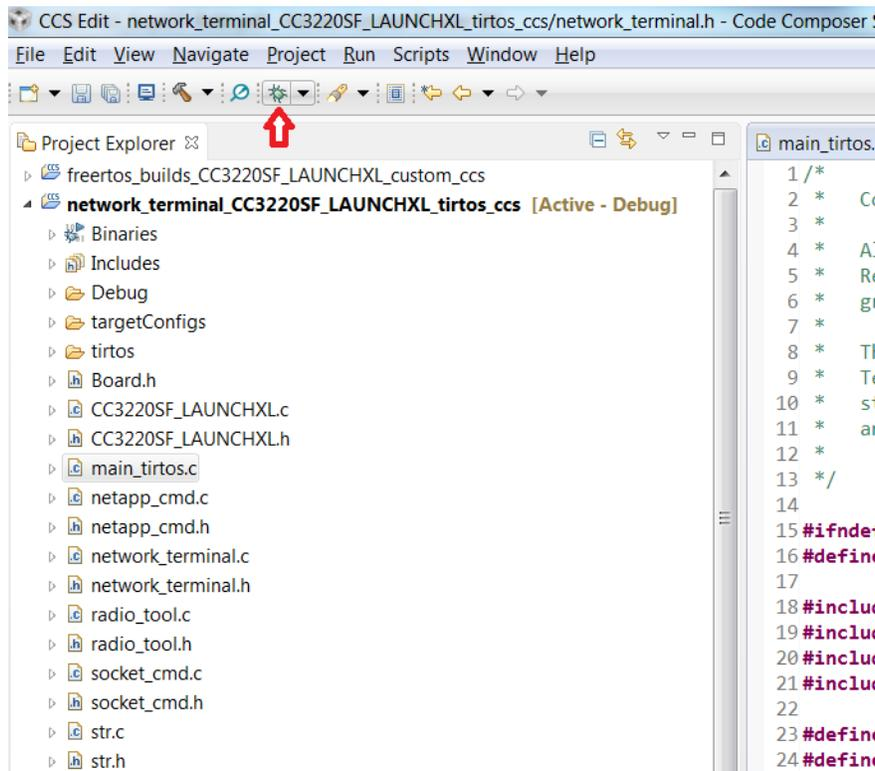

Figure 3-5. Debug Network Terminal
5. Launch the application. Select the `network_terminal_CC3220SF_LAUNCHXL_tirtos_ccs` project in Project Explorer and click on the debug icon, as shown in Figure 3-5, to download code to the device and begin debugging. Press F8 to begin execution.